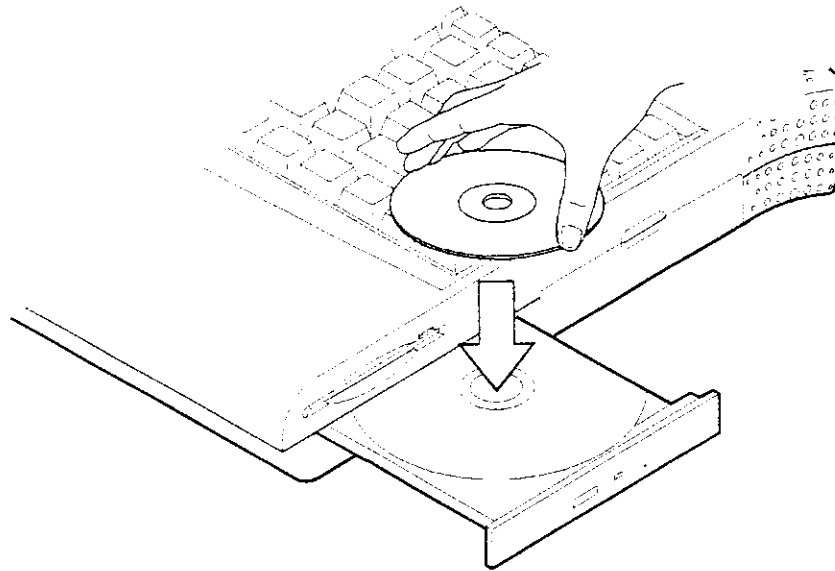

Figure 2-13
4. Carefully load the CD on the disc tray with label-side facing up. Press it gently to ensure it fits into place (Figure 2-13).